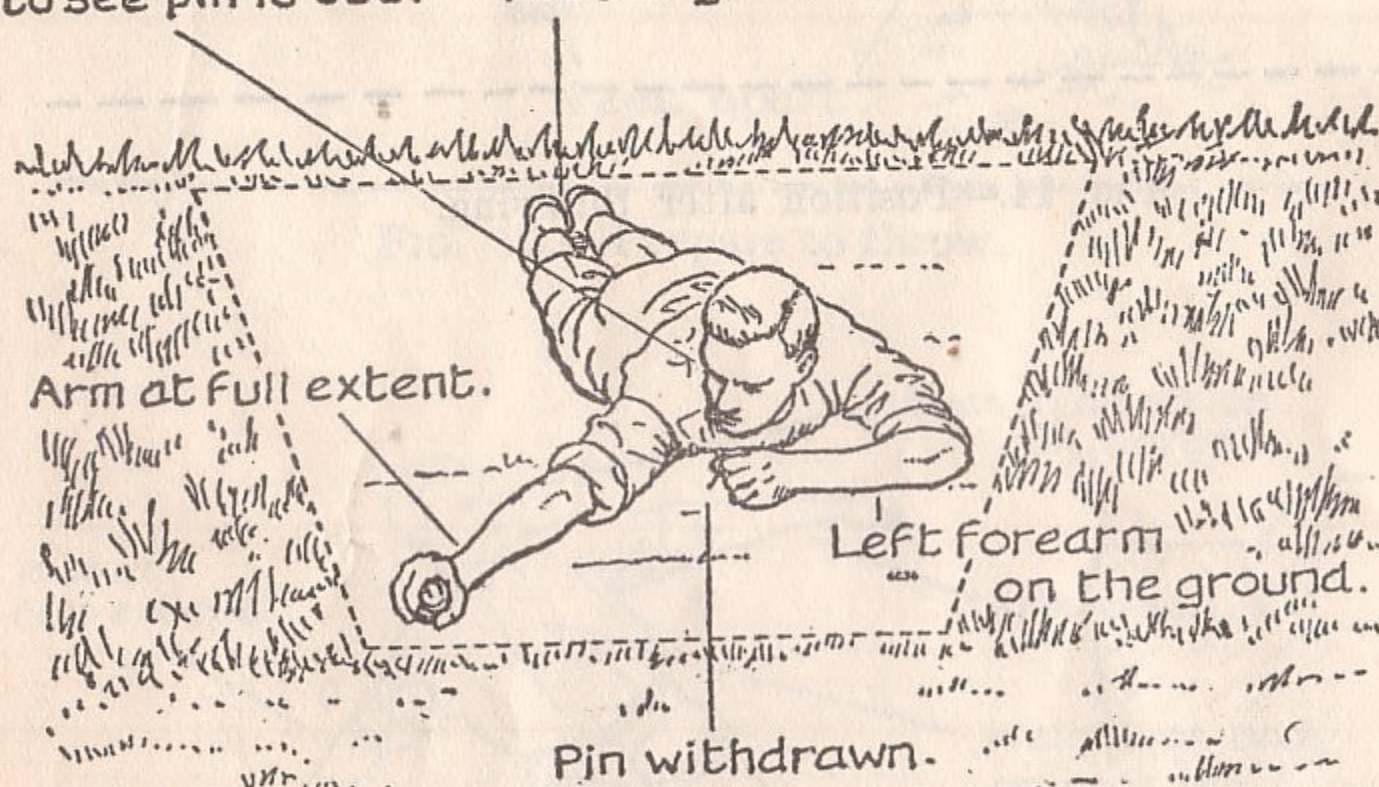

FIG. 15.—Prepare to throw
1. Explain that, owing to the nature of the cover, the grenade may be thrown from the lying position (see Figs. 15 to 17).